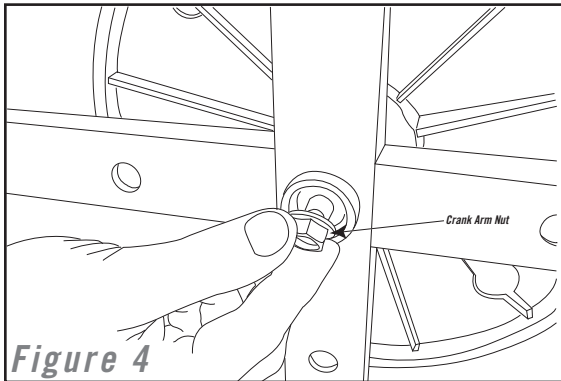

Figure 4
- 8) Remove the crank arm nut. (Figure 4)